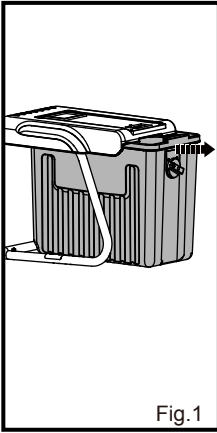

Fig. 1
- Place the hopper inside the collection box as shown in Fig. 1.